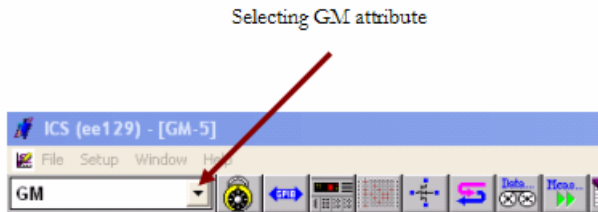

Figure 28: Selecting GM attribute from ICS window
1. Go to the ICS window and click down the scroll bar, shown in Figure 28. Then select GM.